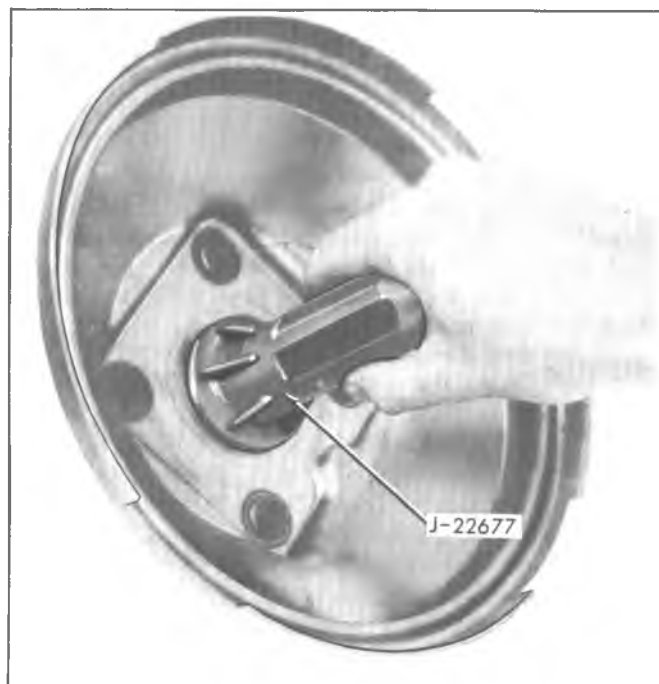

Fig. 5-4D--Installing Rear Housing Seal
1. Place rear housing on a block of wood, stud side down, and position housing seal in center hole. Use Tool J-22677 (fig. 5-4D) to seat seal in recess of rear housing. Tool bottoms against housing when seal is in place.